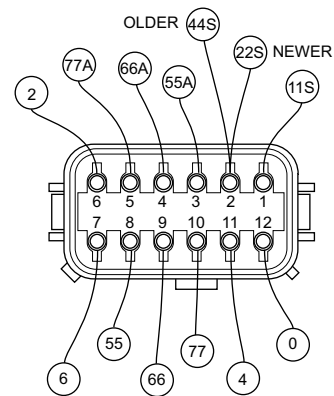

Figure 4-19. C1 Connector, Female Side
See Figure 4-19 for the following steps.
3. See Figure 4-19. Connect the meter test leads across wire 4 (pin 11) and wire 0 (pin 12) at the C1 connector female side.
5. See Figure 4-19.